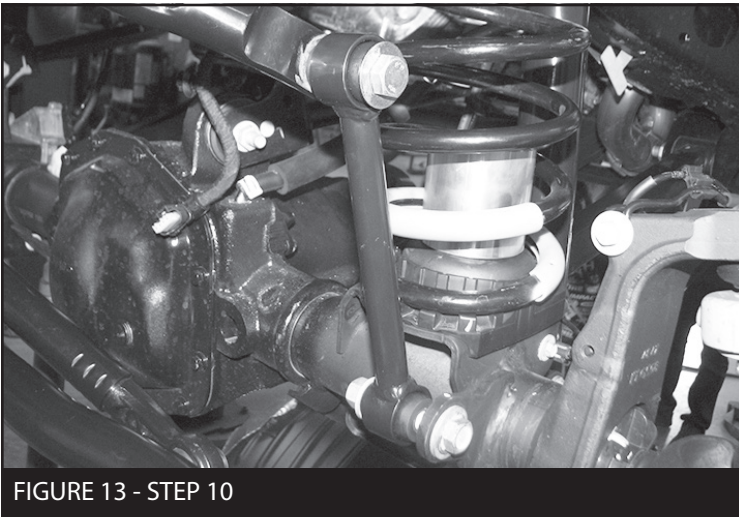

FIGURE 13 - STEP 10
10. Install FT50048 (Bushings) and FT404739 (Sleeves) into FT50261BK (Sway bar links). Then, install the links to the axle mount and sway bar using the supplied M12 x 70mm hardware for the upper location and the factory for the lower. Torque to 65 ft-lbs. SEE FIGURE 13